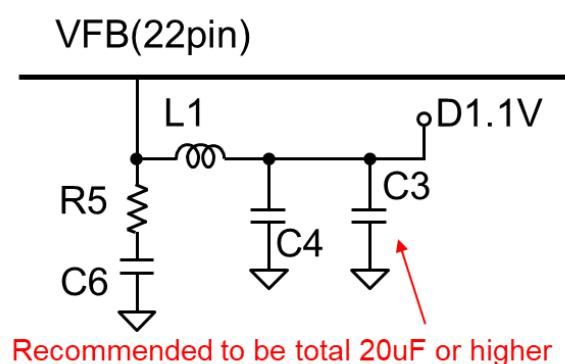

Figure 2-4 Example of an external circuit for a DC-DC converter
- Figure 2-4 shows an example of an external circuit for a DC-DC converter, and Table 2-4 shows an example of its circuit constants.